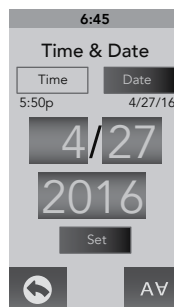

Figure 12.9d
1. Tap **Date** to program the date, Figure 12.9d.